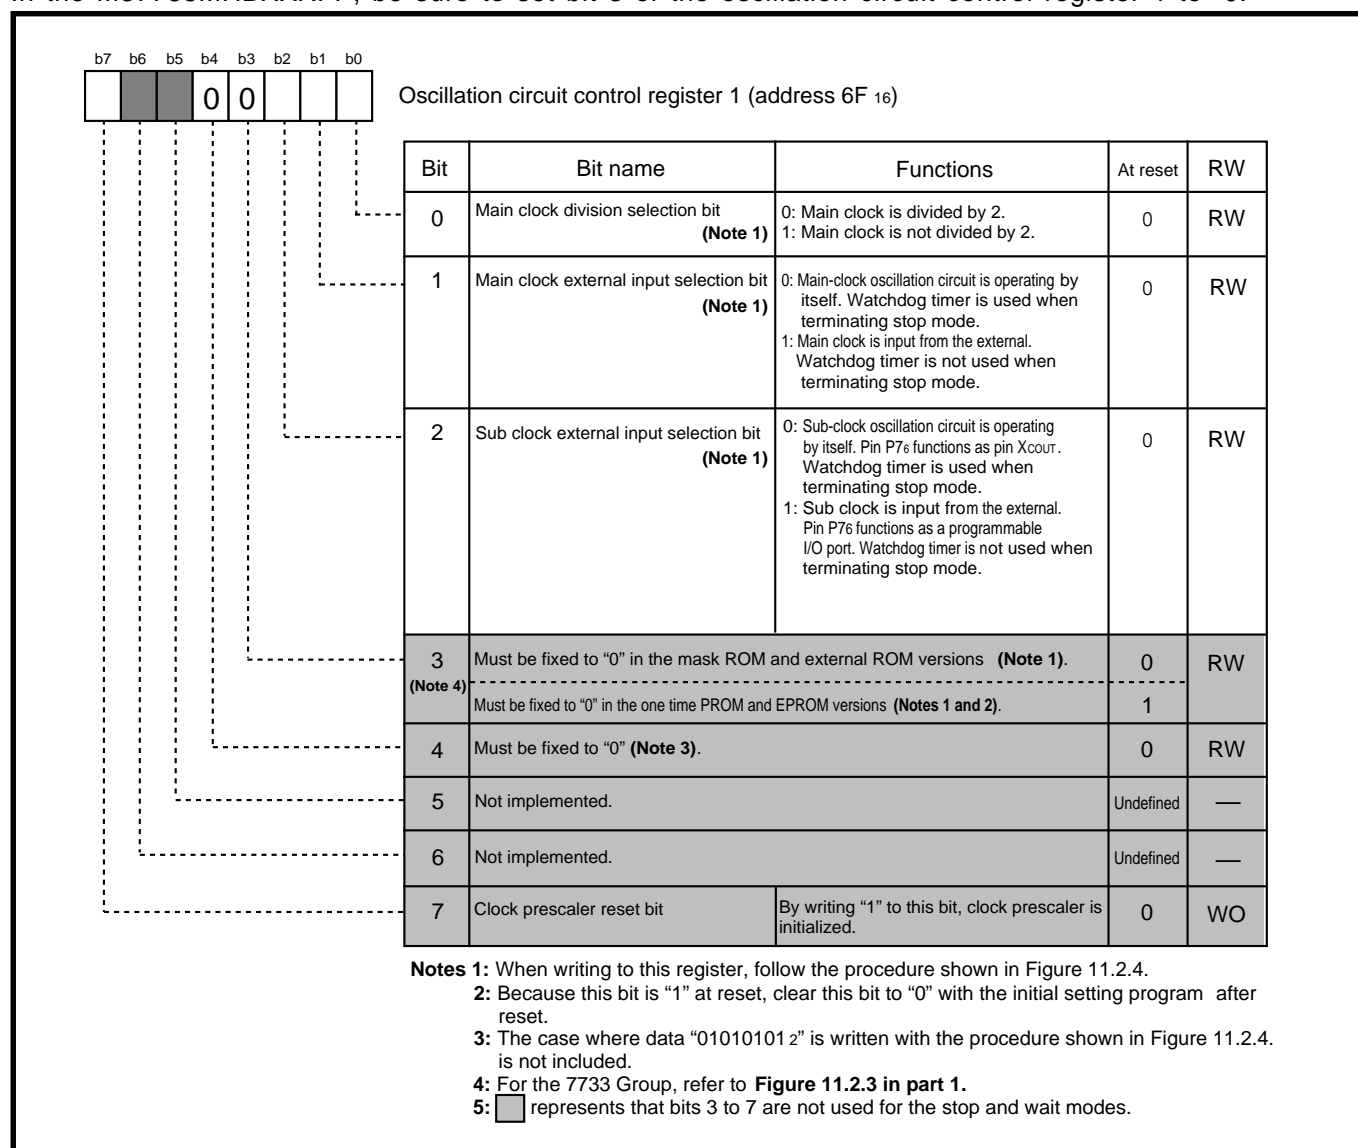

Fig. 11.2.3 Structure of oscillation circuit control register 1
- **Figures 11.2.3 and 11.2.4**